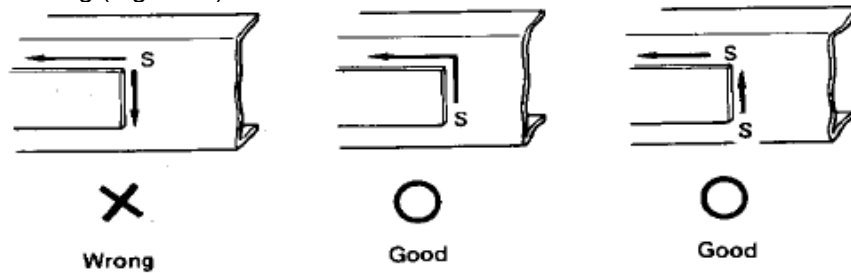

Fig. 3-13
- A short weld zone is liable to harden, due to quick cooling and potentially crack. Therefore, the bead length should be at least 30mm. Defects can occur easily at the starting and ending points of welding; Thus, caution should be taken. A corner of the object to be welded must not coincide with the starting and ending points of the welding (Fig. 3-13).